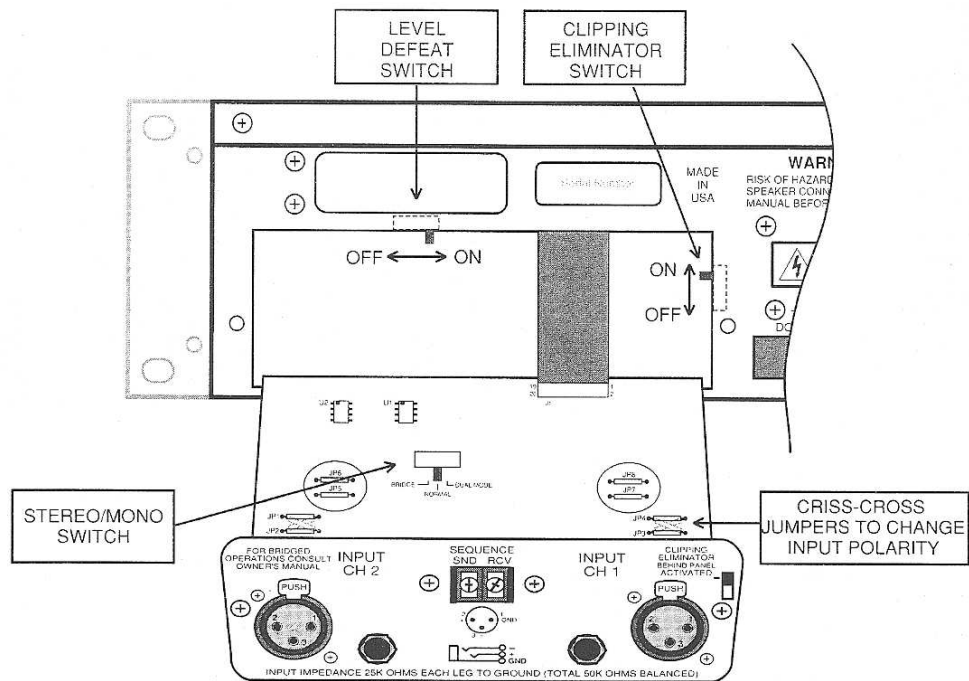

Figure 8. Operational Modifications
4. See Figure 8 for the locations of the Level Defeat Switch, Stereo/Mono Switch, Clipping Eliminator Switch and Input Polarity jumpers.
The Stereo/Mono Switch is located on the input board, which is attached to the input panel (see Figure 8). Leave the switch centered for normal stereo operation, move it to the left for Bridged Mono operation, and move it to the right for Dual Mono operation.
The Level controls can be bypassed by moving the switch located just inside the input panel to the left (see Figure 8). This will lock the amplifier into full gain (as if the Level pots were fully clockwise). Moving the switch to the right will return the Level controls to normal operation.
The XLR input connectors on the pm1400 are shipped from the factory with pin 2 hot (+), as indicated on the rear panel. The polarity of the balanced inputs can be reversed by changing four jumpers located on the Input Board. Cross-wire JP3 and JP4 to change the input polarity of CH 1 and cross-wire JP1 and JP2 to change CH2 (see Figure 8). This modification also changes the polarity of the 1/4-inch TRS input connectors: thus the tip becomes "-" and the ring becomes "+".
The clipping eliminator circuit is operational when shipped from the factory. However, it can be defeated by moving the switch located just inside the input panel to the down position (see Figure 8). Moving the switch up will return the Clipping Eliminator to normal operation.